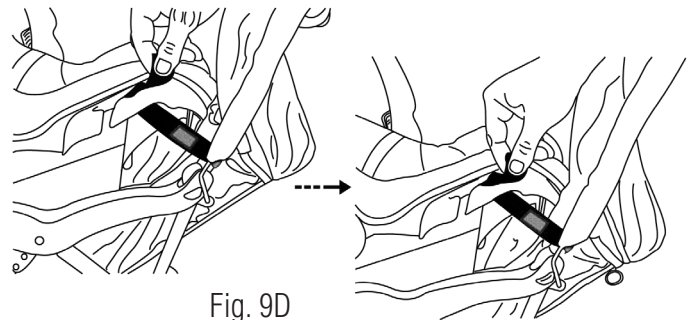

Fig. 9D
16. Final step to secure the footrest side of car seat onto the stroller, use the straps with velcro to secure seat onto stroller. (Fig. 9D). Check that car seat is securely attached by pulling up on the car seat. To remove, undo latches and unlock car seat from child tray.